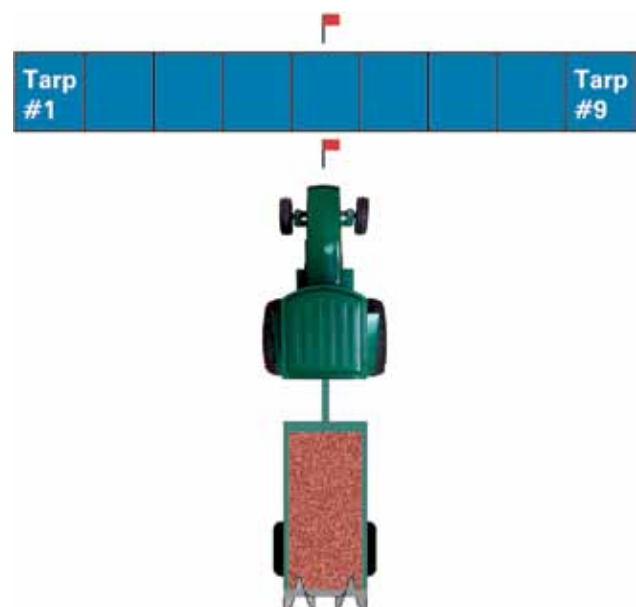

Figure 1. Tarp layout
1. Place the tarps required based on the manure spread width, side by side in a line perpendicular to the direction of travel on flat ground. Overlap the tarps by 2.5 cm (1 inch) (see **Figure 1**).
2. Calculate each **tarp area (TA)** covered (see **Instruction 1** next page).